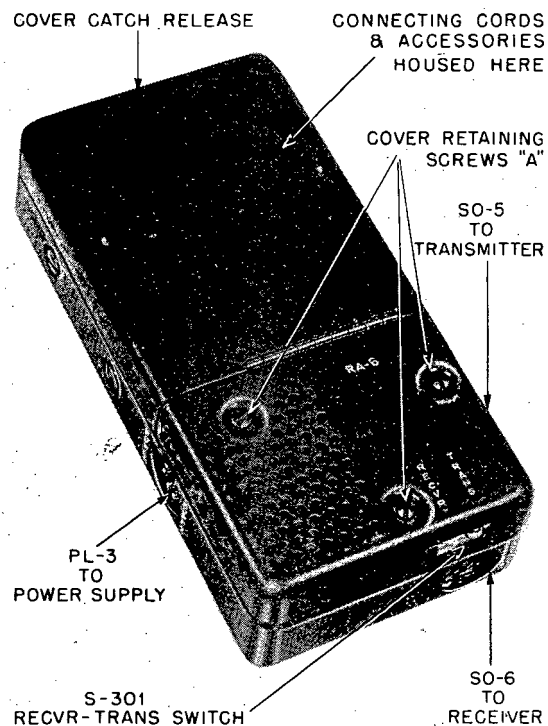

Figure 9. Filter-Accessory Unit RA-6 showing RECVR-TRANS switch
(1) The dials are calibrated in megacycles.
(2) The 3 to 7 mc markings are in blue.
(3) The 7 to 16.5 mc markings are in red.
d. Set RECVR-TRANS switch on Filter Accessory Unit RA-6 to TRANS. (See Figure 9).
a. Set RECVR-TRANS switch (Figure 9) on Filter-Accessory Unit RA-6 to RECVR.